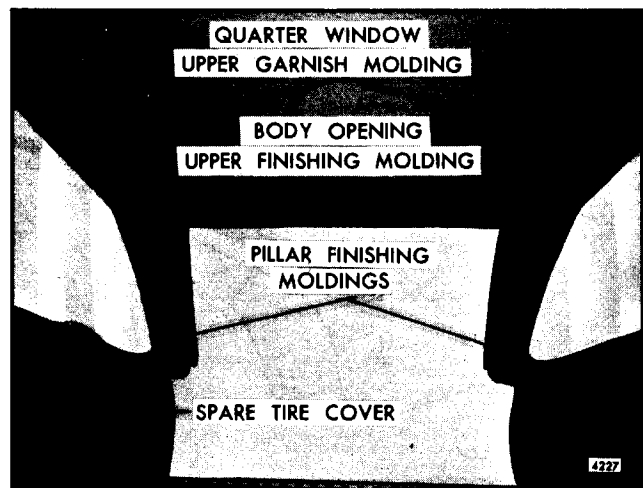

Fig. 9-4-Body Rear Finishing Moldings
1. Remove back body pillar and/or upper body opening finishing molding (Fig. 9-4).
3. Remove right quarter window upper garnish molding and retainer, right rear body pillar finishing molding and back body opening upper finishing molding (Fig. 9-4).